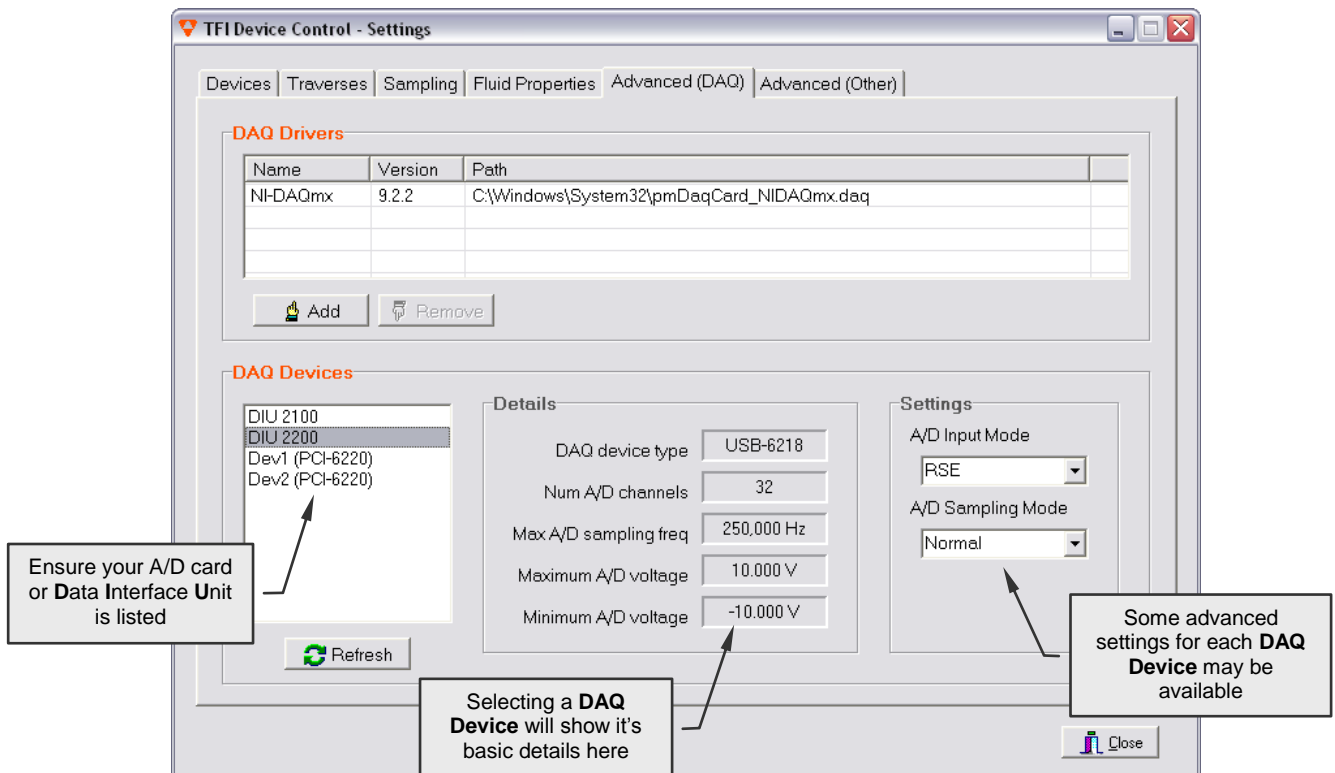

Figure 5: Software configuration – Checking the data acquisition details
- Select **Advanced (DAQ)** from the **Settings** menu, then refer to Figure 5
- i** For DAQ devices that use a common input voltage range for all channels (e.g. some Data Translations A/D cards) it will also be necessary to choose the appropriate input voltage range on the **Advanced DAQ** tab (this is not shown above in Figure 5 but will appear if such a DAQ device is selected).
- i** For cards that use a common input voltage range for all channels, a note will pop up that the **A/D Input Range** is set on the **Advanced (DAQ)** tab (see Figure 5).